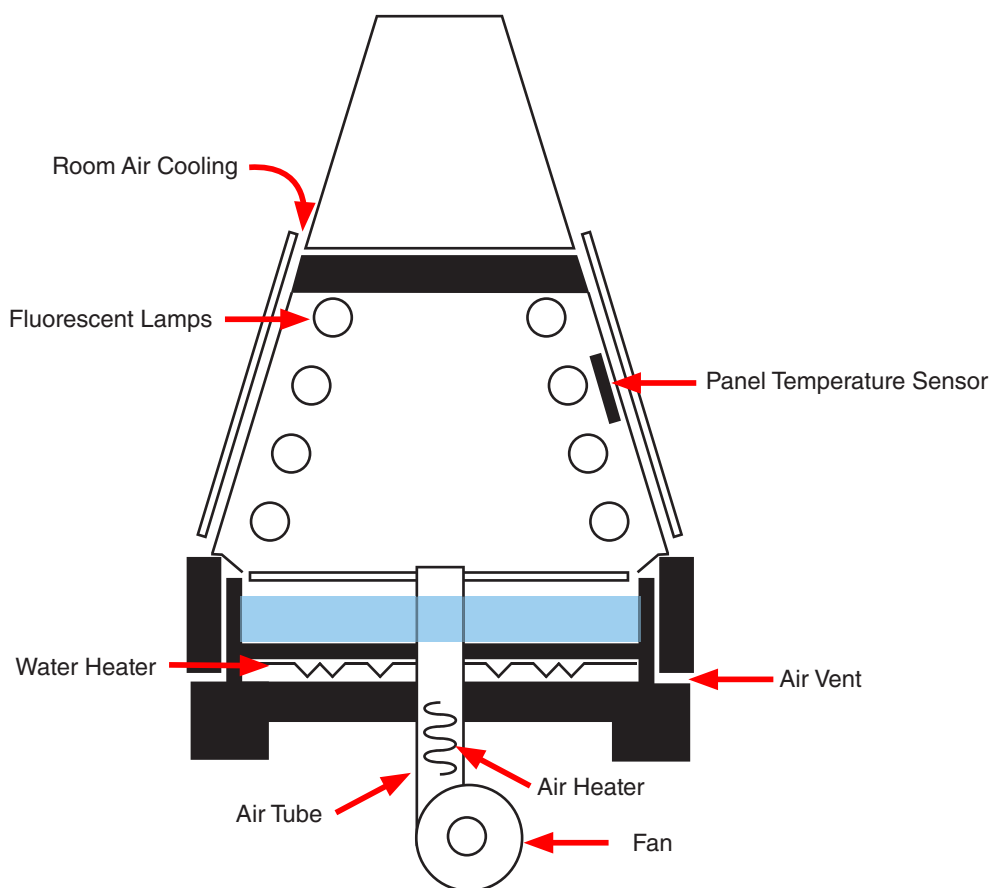

Figure 10.4a: Temperature control components schematic.
- **Fan:** The fan is located on the underside of the unit (Figure 10.4a). It operates continuously throughout the UV function.
- The fan (Figure 10.4a) is typically operated for the first few minutes of the condensation function to provide a rapid cooling of the test chamber to the condensation temperature setpoint.
- The water heater, air heater, and fan are all off (Figure 10.4a).
- **Fan:** The fan is located on the underside of the unit (Figure 10.4a).